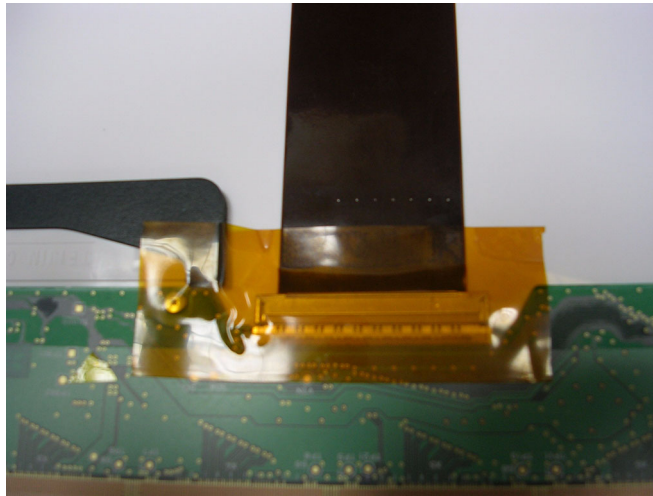

Figure 8-71 Adhering Kapton Tape on the LCD Rear Panel Connector
- 4) Adhere the kapton tape on the LCD rear panel connector, see Figure 8-71.